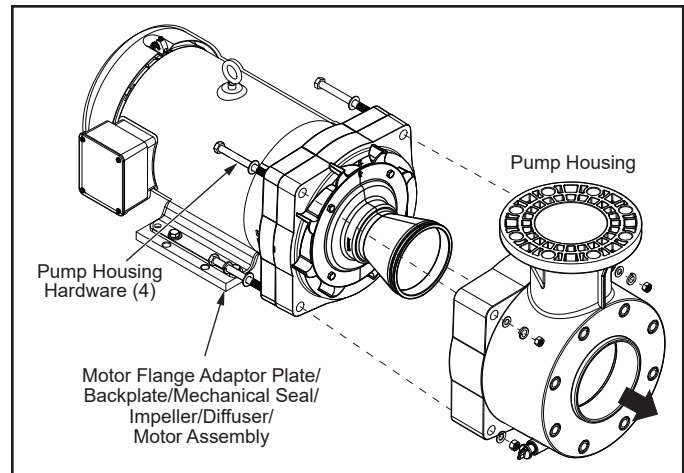

**Figure 11. JCP Pump with Strainer Pot Assembly**
5. Using a 15/16" wrench, loosen the eight (8) 5/8" Hex Screws securing the Strainer Pot assembly to the pump housing/motor body. See Figures 11 and 12.